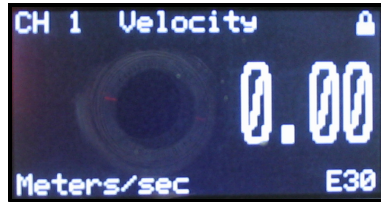

Figure 33: Screen with Locked Program
5. Press **[ESC]** to return to the User Program, or continue pressing **[ESC]** to return to the display screen. If you have chosen to fully lock the **Sentinel LNG**, the screen appears similar to Figure 33 below, with a solid lock in the upper right corner. (For a meter with only the user program locked, the lock shows a keyhole in the center.)